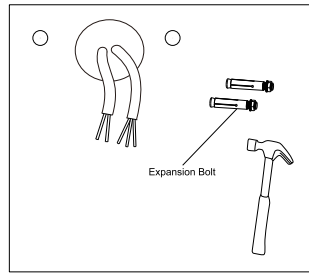

Figure 5
2. Insert expansion screws into the holes by hammer and take off the nut washer (Figure 5)